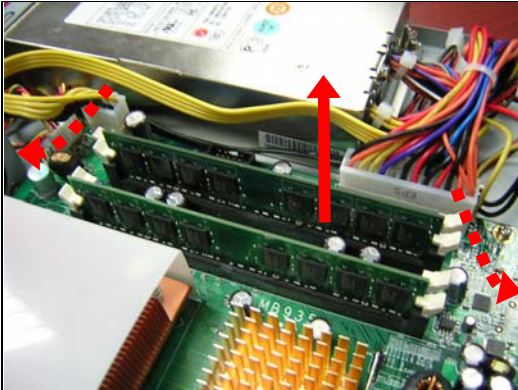

Fig. 6-1 Eject a DIMM module
1. Install the system memory by pulling the socket's arm and pressing it into the slot gently. (Fig. 6-1, 6-2)